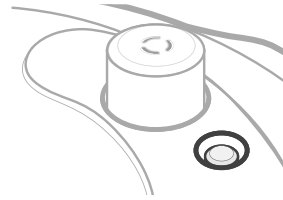

Figure 1.8
- The float valve indicates if there is pressure inside the cooker. Float valve down means there is no pressure inside. [Figure 1.8]